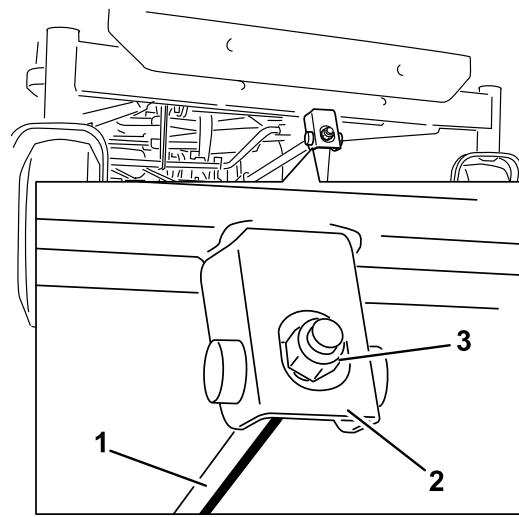

Figure 62
- To adjust the front-to-rear blade slope, rotate the adjustment nut in the front of the mower (Figure 62).